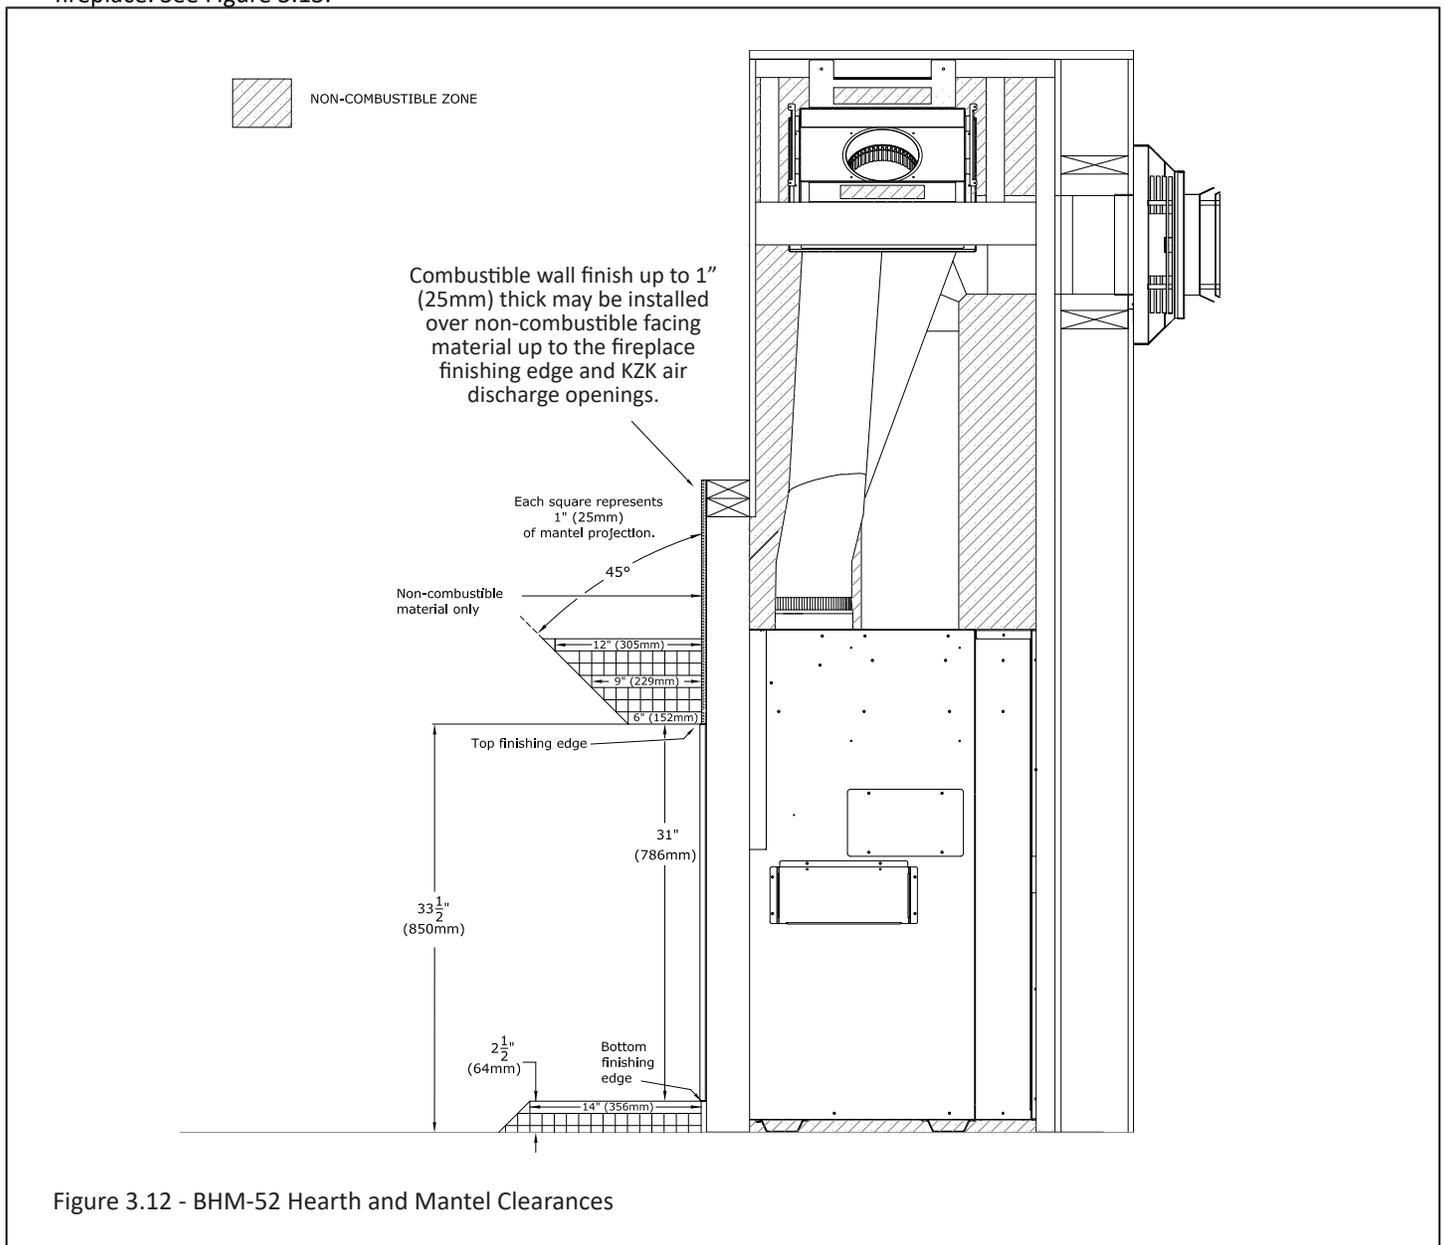

Figure 3.12 - BHM-52 Hearth and Mantel Clearances
- Combustible Mantel Projections (no surround): As referenced in Figure 3.12, the 6" (152mm) mantel can start flush with the top finishing edge. Mantel projections can increase 1" (25mm) of depth for every 1" (25mm) of height starting at the 6" (152mm) mantel.